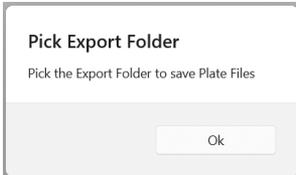

Fig. 37—Select **OK** to choose a folder to store your EVOM™ Manual data files.
3. When the EVOM™ Companion Application is first launched, it prompts you to select a folder for data export. Click on the folder icon in the center of the window. A popup message displays (Fig. 37). Click **OK**.